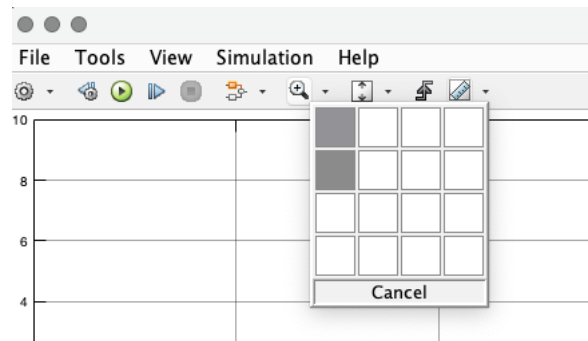

Figure 8: Changing the Scope's Layout View
- Within the scope, click on “View” and then “Layout...” a new window will appear. Use your mouse to select the layout option as it does in figure 8. This will take the two incoming ports and display them in a 2x1 view.